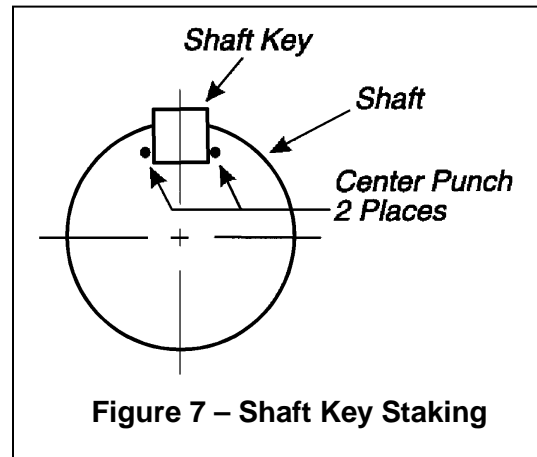

Figure 7 – Shaft Key Staking
13. After actuator is mounted, and shaft key is assembled in keyseat, secure shaft key by staking with a center-punch on the end of the shaft. Stake on both sides of the shaft as shown in Figure 7.